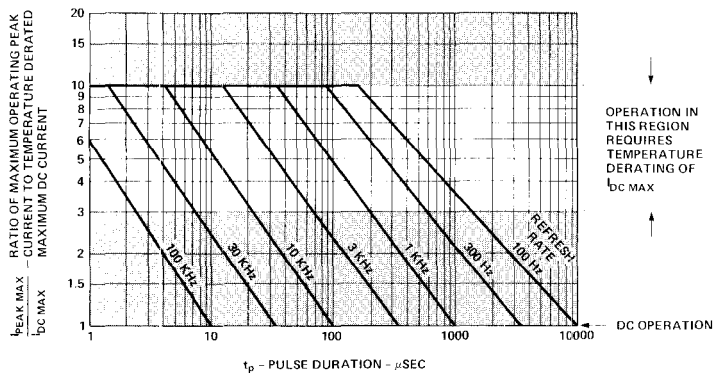
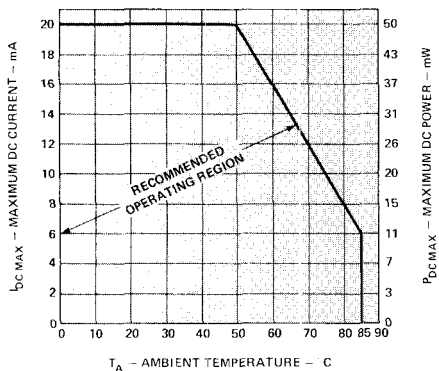

Figure 1. Maximum Tolerable Peak Current vs. Pulse Duration.
Figure 2. Maximum Allowable DC Current and DC Power Dissipation Per Segment as a Function of Ambient Temperature.
Notes: 1. See power derating curve (Fig.2). 2. Derate average current from 50°C at 0.4mA/°C per segment. 3. See Maximum Tolerable Segment Peak Current vs Pulse Duration curve, (Fig. 1). 4. Clean only in water, isopropanol, ethanol, Freon TF or TE (or equivalent) and Genesolv DI-15 or DE-15 (or equivalent).
Figure 1 relates refresh rate,  $f$ , and pulse duration,  $t_p$ , to a ratio which defines the maximum desirable operating peak current as a function of derated dc current,  $I_{P\ MAX}/I_{DC\ MAX}$ . To most effectively utilize Figure 1, perform the following steps:
- Enter Figure 1 at the calculated  $t_p$ . Move vertically to the refresh rate line and then record the corresponding value of  $I_{P\ MAX}/I_{DC\ MAX}$ .
- From Figure 2, determine the value for  $I_{DC\ MAX}$ .